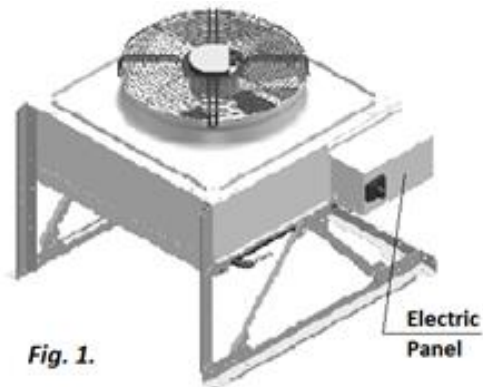

Fig. 1.
*For example, DS08D would have double-condenser, composed of two NC-Z-1 (see Pic.C.4, Fig.1).*